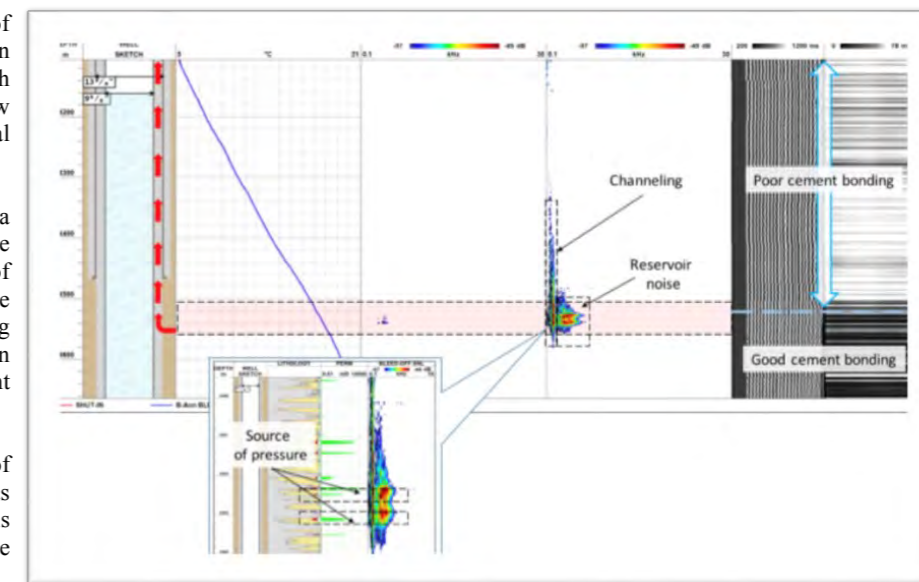

Figure 1: from left to right - depth, well schematic, temperature, SNL panel (Shut-in and Bleed-Off), CBL-VDL
A typical SNL log gives the well engineer a plot of the noise spectrum and intensity with depth indicating behind casing fluid flows, leaks and annulus communications. (See case study below – figure 1).
- Two sources of gas were observed from noise under shut in conditions at depths X726ft to X742ft and X762ft to X780ft (figure 1, shut-in panel)
- Bleed-off survey (figure 1, Bleed -Off SNL Panel), indicated upward movement of gas from the two gas-bearing zones.